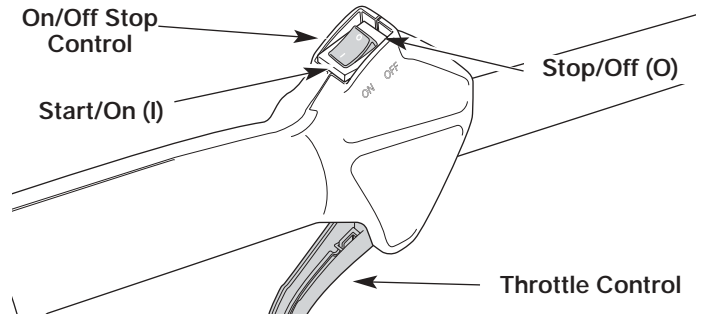

Fig. 10
3. Make sure the On/Off Stop Control is in the **ON (I)** position (Fig. 10).
2. Put the On/Off Stop Control in the **OFF (O)** position (Fig. 10).